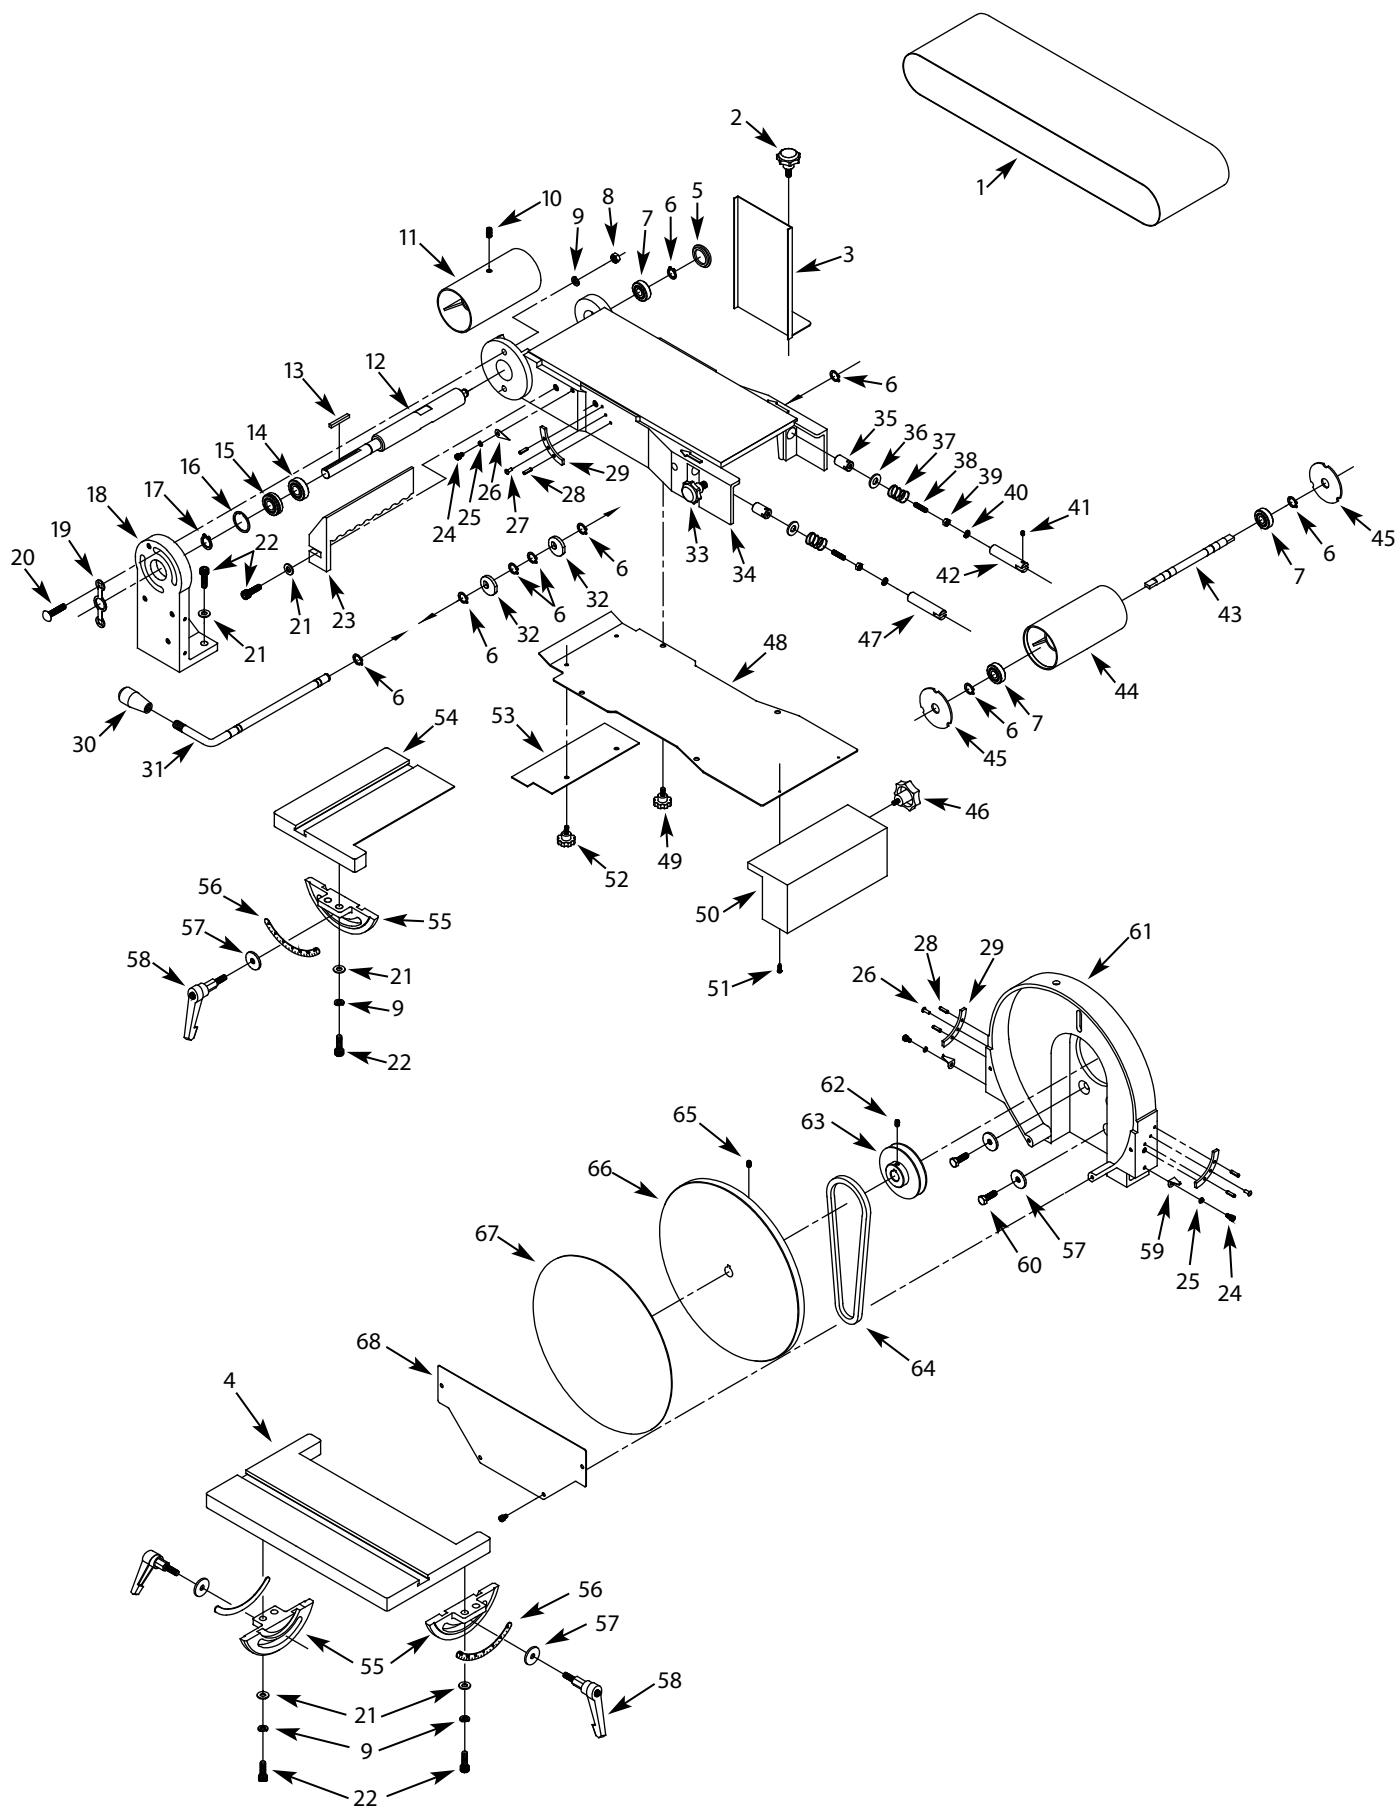

Figure 11 – Replacement Parts Illustration for Sander
Refer to Figure 11.
Refer to Figures 11 and 12.
- Loosen and remove four bolts (Figure 11, Ref. No. 24) from disc cover plate (Figure 11, Ref. No. 68).
- Loosen and remove two handles (Figure 11, Ref. No. 58) from either side of the disc table (Figure 11, Ref. No. 69).
- Slide out disc table from the disc guard (Figure 11, Ref. No. 61).
- Loosen the set screw (Figure 11, Ref. No. 65) securing the aluminum disc (Figure 11, Ref. No. 66). Use the hole on the top of disc guard to locate and loosen set screw. Do not remove set screw.
- Turn knob (Figure 12, Ref. No. 52) on bracket (Figure 12, Ref. No. 51) to release tension on V-belt (Figure 11, Ref. No. 64).